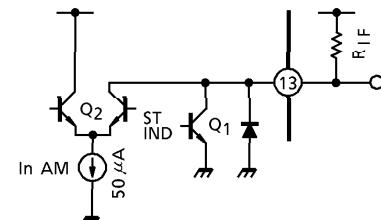

Fig.5 Internal circuit of pin⑬
- The terminal of pin⑬ is built in stereo indicator function and modulated AM IF signal output. In AM mode,  $R_{IF}$  (3k $\Omega$  or less) should be connected between  $V_{CC}$  and pin⑬, or pin⑬ should connected to  $V_{CC}$  directly. (Fig.5) In case that  $R_{IF} > 3\text{k}\Omega$  or pin⑬ is opened, this IC doesn't operate normally in AM mode. Because transistor Q2 is saturated.